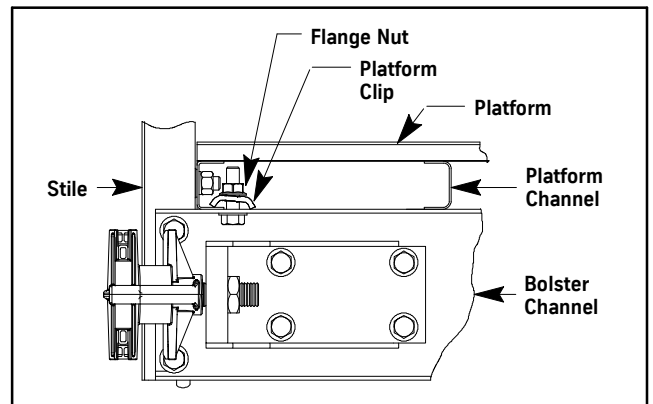

Figure 16 - Platform Installation
1. Hoist the platform into place, and install the clips and bolts between the platform channels and the tops of the bolster channels. See Figure 16.